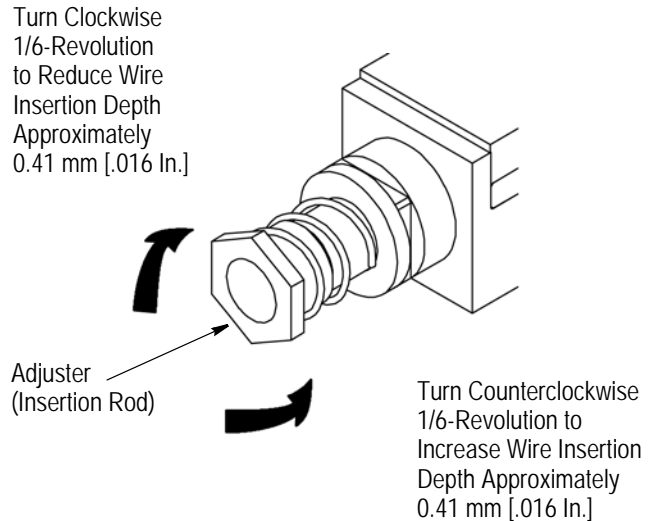

Figure 3
• *If the wire is too deep in the contact slot:* Remove the head and turn the adjuster CLOCKWISE. Refer to Figure 3. A 1/6-revolution adjustment will reduce the wire insertion depth by approximately 0.41 mm [.016 in.]. Repeat steps 2, 3, and 4 of Paragraph 3.1 until the desired insertion depth is attained.
• *If wire is not deep enough in contact slot:* Remove the head and turn the adjuster COUNTER-CLOCKWISE. Refer to Figure 3. A 1/6-revolution adjustment will increase the wire insertion depth by approximately 0.41 mm [.016 in.]. Repeat Steps 2, 3, and 4 of Paragraph 3.1 until the desired insertion depth is attained.